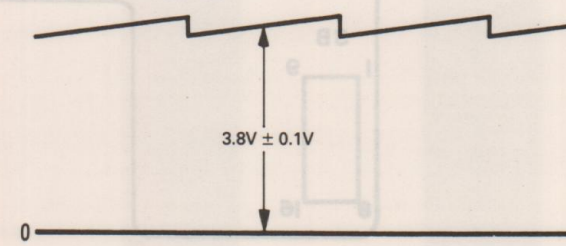

Figure 52
- ① Place the VTR in the VS-REV mode.
- ② In the same way as was done for the Capstan lock adjustment (4), observe the voltage at TP7 of the Main Servo IC on the oscilloscope.
- ③ Fine adjust the Capstan lock (VS-R) VR in the power supply hybrid IC so that the voltage at TP7 is as shown in Fig. 52.